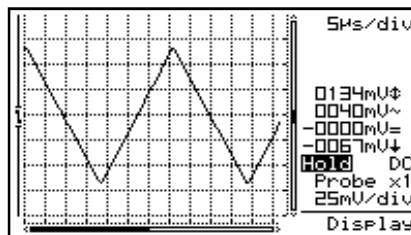

Fig 15
- A **full grid** divides the screen into reference lines. (Fig. 15)